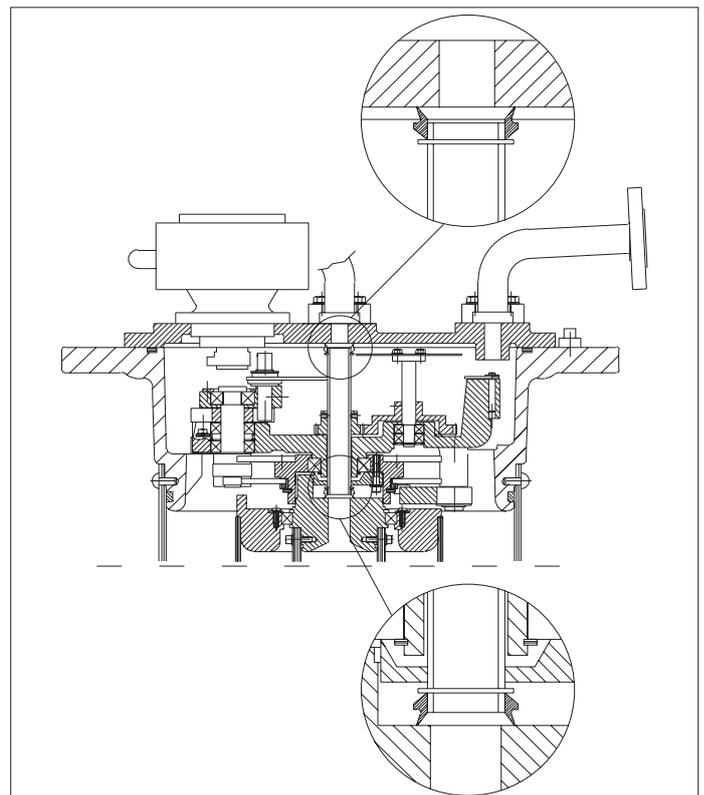

Fig. 12. Sealings.
16. Make sure that the sealing underneath and on top of the mechanism are in place, see Fig. 12. Remount the mechanism and tighten the four M8-screws in the corners of the base plate, see Fig. 5.